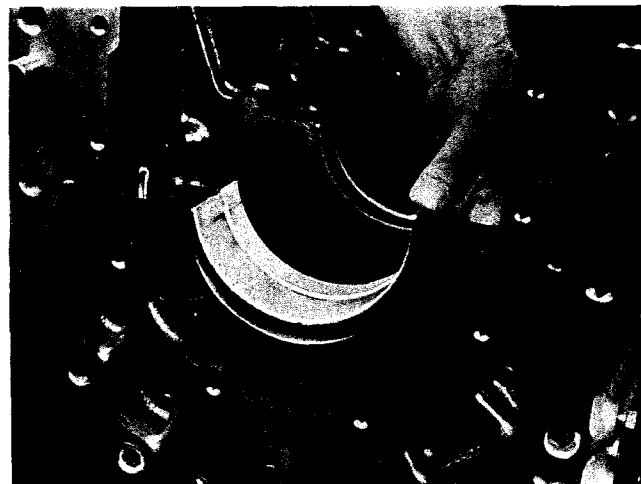

Fig. 14-5, (N114242). Installing upper main bearing shells
3. Coat upper main bearing shells thoroughly with clean lubricating oil. Install main bearing shells in cylinder block. Fig. 14-5.